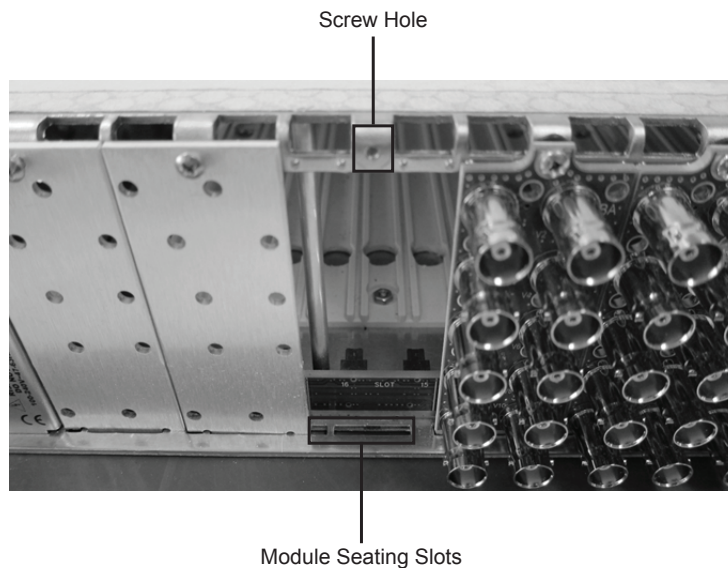

Figure 2.1 Rear Module Installation in an openGear Frame (ADC-8733A not shown)
3. Install the bottom of the Rear Module in the **Module Seating Slot** at the base of the frame’s back plane. (**Figure 2.1**)